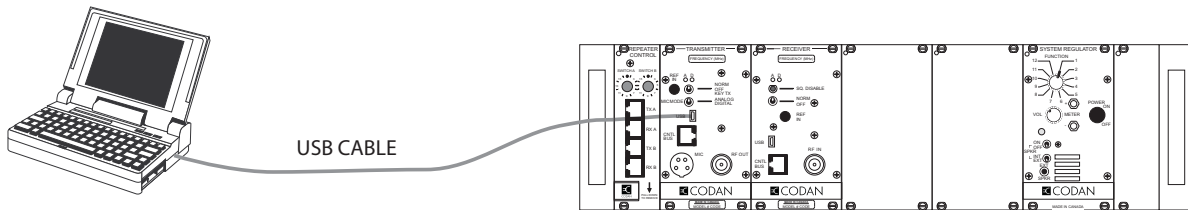

Figure 3: USB Programming Cable Connection
2. Use a type A to 5 pin mini-type B USB cable to connect the USB port of an IBM compatible computer to the USB port on the front panel of the MT-4E Receiver, MT-4E Transmitter, Multiple Link Controller, or UIC module as shown in Figure 3. Ensure that the front panel switch is in the NORM position on the MT-4E Receiver or MT-4E Transmitter.